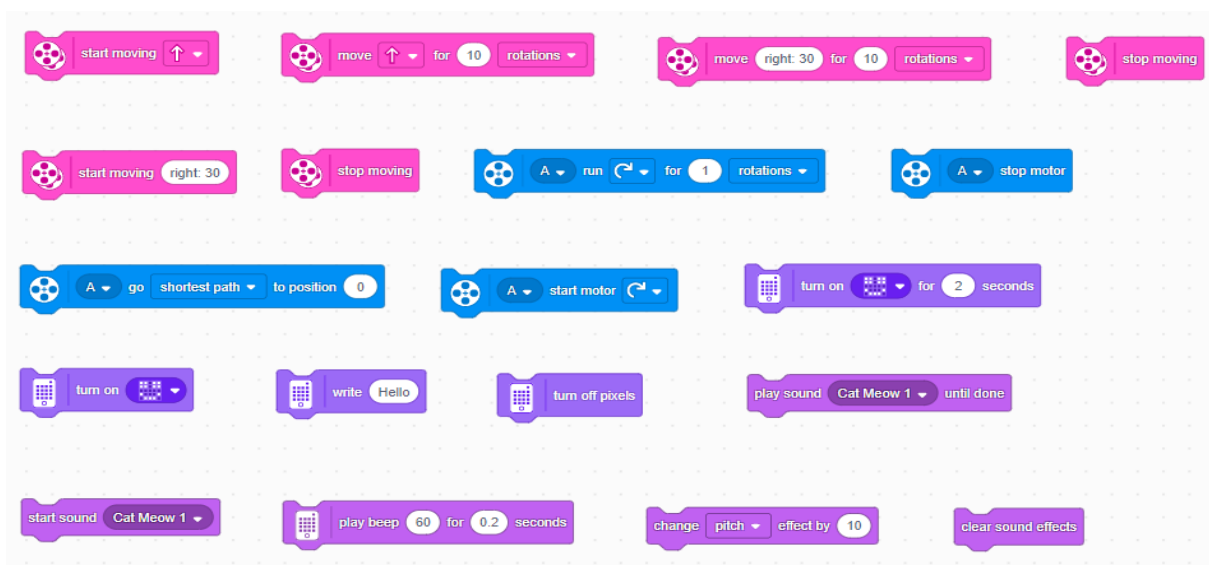

Fig. 8.5: Examples of Blocks that carry out processes in the LEGO®Education SPIKE app.
- b. Process:** There are a number of these blocks which define the action to be carried out. These processes may be found under the motors, movement, light and sound block categories in the LEGO®Education SPIKE app. Some examples are presented in Fig. 8.5.